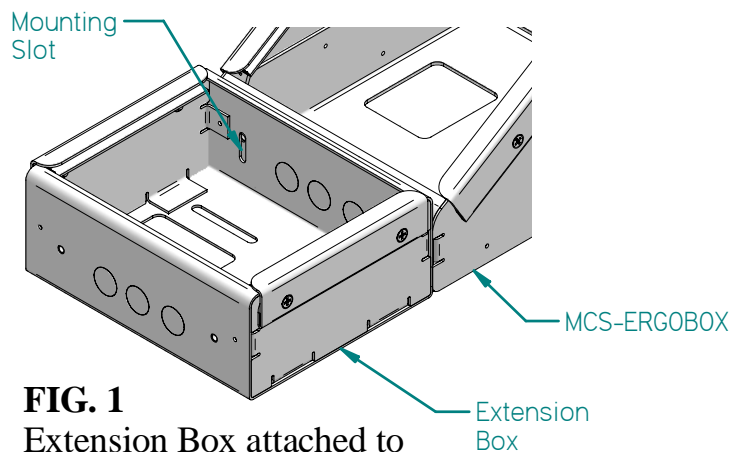

FIG. 1
1. If attaching the Extension Box to the MCS-ERGOBOX or the MCS-LOWBOX, there are two slots available on the backside of the Extension Box for fasteners to pass through into either of the mentioned concole boxes (see **FIG. 1**).
ASSEMBLING MCS FACEPLATES: (Refer to figure 1)
(1) 6-32 nut
2. For each faceplate, slide the faceplate vertical offset (item 1) on the stud in faceplate top bracket (item 2). Add flat washer (item 3) and hex nut (item 4). Remove the extra strips of dual lock fastener pressed onto each console box under holddown rails, cut to same length as each faceplate, remove protective film covering the adhesive strip and apply to top bracket as shown.
3. If the faceplates are being mounted in an older style MCS Console Box (those with threaded inserts on the top surface of the side panels/holddown screws passing through slots in existing face plates or blank panels), DO NOT attach the strip of dual lock fastener on each faceplate as described above. When installing faceplates into these MCS Console Boxes, mark any that cover the threaded inserts and drill a .312 diameter clearance hole as shown in Figure 1.